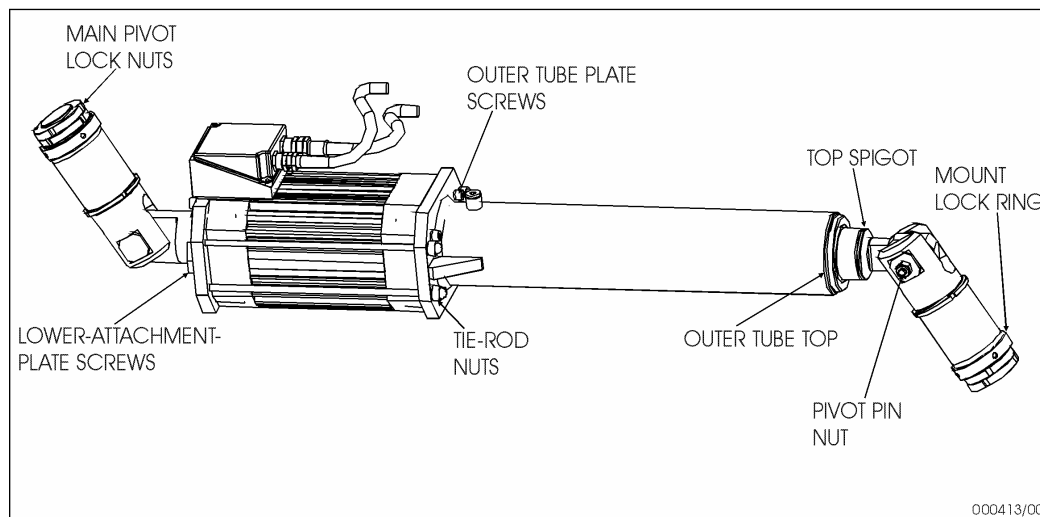

Figure 6 : Critical fastenings
- All critical fastenings (see Figure 6) have a paint or coloured varnish stripe marking the fully-tightened position. If loosening has occurred, the motion base should be taken out of service and Cuesim Ltd should be contacted immediately. The critical fastenings are: